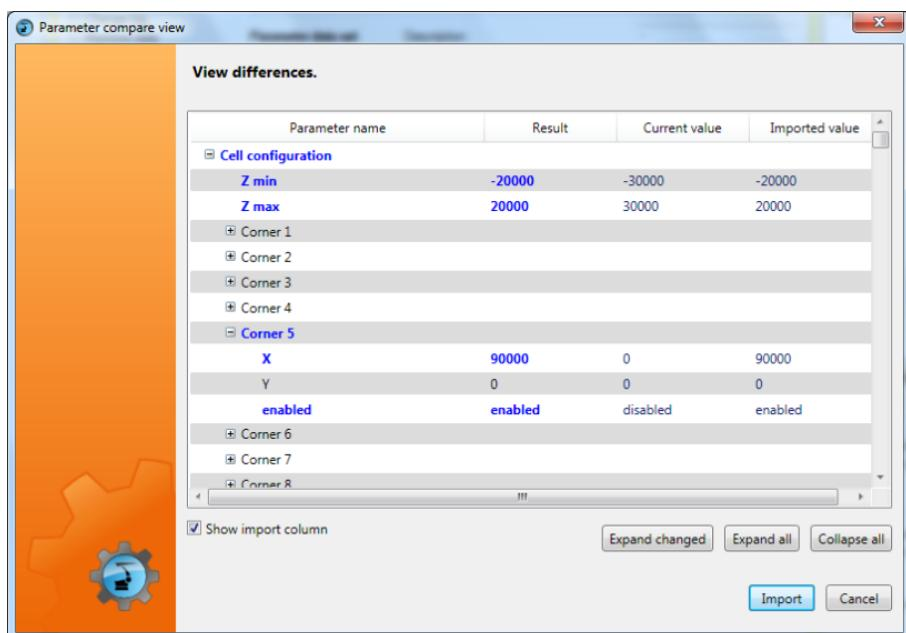

Fig. 7-2: Example: Displaying the differences
7. If no errors are present: the differences between the existing values and those to be imported are displayed in the Import window before the import is carried out. (**>>> Fig. 7-2**).